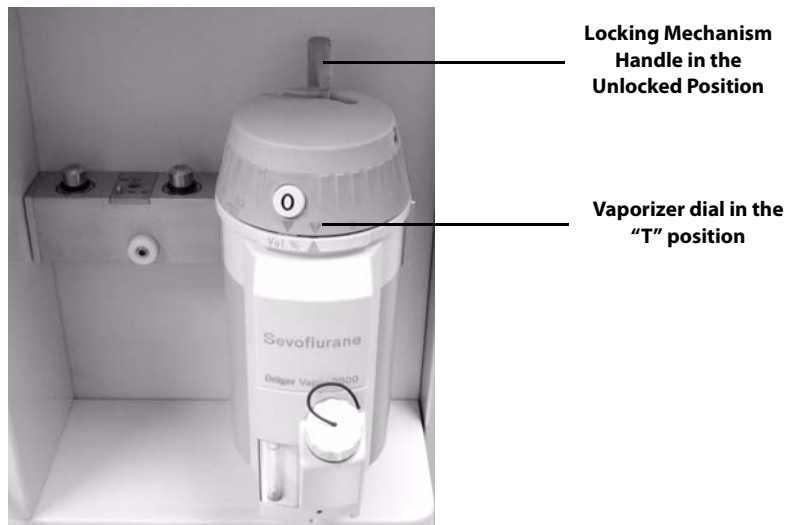

FIGURE 2-2 Vaporizer, Unlocked
2. Align the new vaporizer over the valve cartridges of the mounting bar, slightly tilting back the vaporizer. Hang the vaporizer on the mounting bar as shown in FIGURE 2-2. Ensure that the locking mechanism handle is in the unlocked position. Ensure that the dial is in the "T" (Transport) position or equivalent, depending upon the vaporizer manufacturer's Instructions For Use.